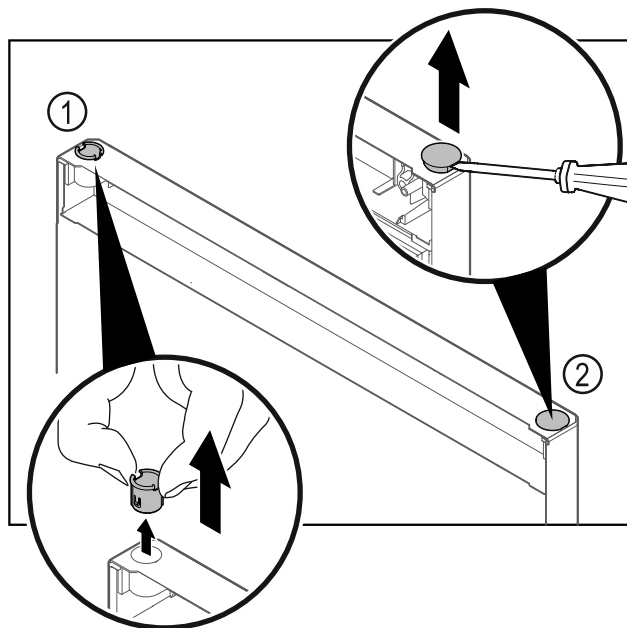

Fig. 17 Fridge compartment door
- Pull out the hinge bushing Fig. 17 (1) with your fingers.
- Carefully lift the cover plug Fig. 17 (2) with a slotted screwdriver and pull it out.